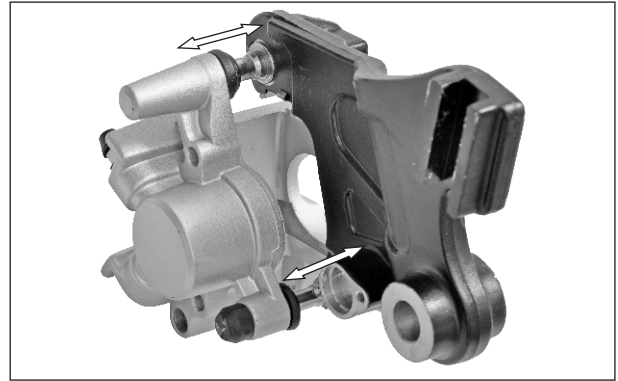

Fig. 6.117
- Remove the bracket complete rear caliper by sliding out after dislocating boot-B and bush boot pin from the pin grooves. (Fig. 6.117)